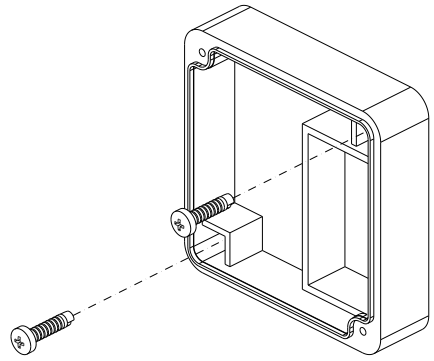

Fig. 2
- suitably fasten the battery housing base to whichever surface you are using (use the 6mm Ø expansion bolts included in the kit if you are fastening the keypad to a wall; or use 4mm Ø self-drilling screws for iron or steel surfaces; or 4mm Ø self-tapping screws for wood and other such surfaces), making sure you position the keypad with the battery compartment on the right (fig. 2) so that the jumper on the back of the front cover is not damaged when you close the keypad back up (fig. 2);